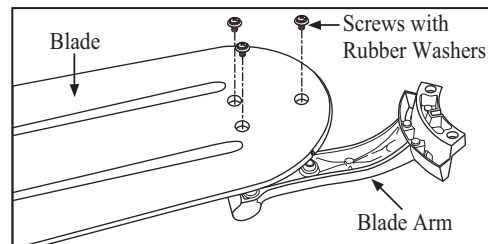

Figure 11
1. Attach blades to blade arm using the screws with rubber washers provided. (Fig. 11) Start a screw into the blade arm, do not tighten. Repeat for the 2 remaining screws and washers.